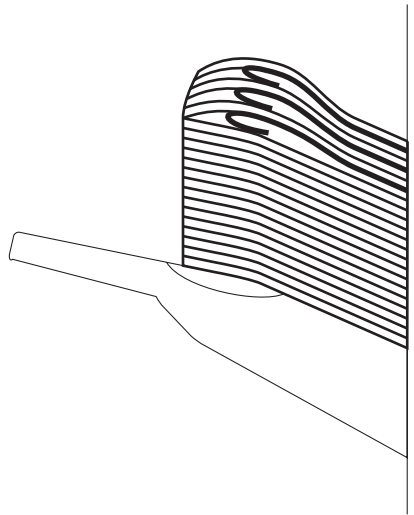

Figure 5-125
When a stack is delivered, its bottom sheets can become trapped by the existing stack, causing them to roll between stacks as shown in Figure 5-125.
- If curling has decreased but the stacks are not deposited properly as shown in Figure 5-125, select downward curl mode.